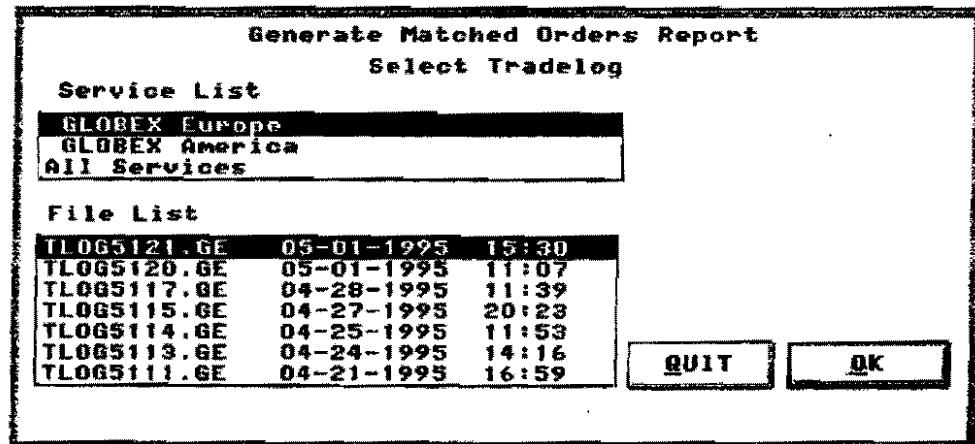

Figure 12.12 Generate Matched Orders Report Dialog Box
1. Select **Matched Orders** in the Reports menu to display the dialog box shown in Figure 12.12. The highest priority Service is selected, as is the most recent of up to seven tradelog files displayed in the list. (Tradelog filenames are explained in Section 12.4.2.)